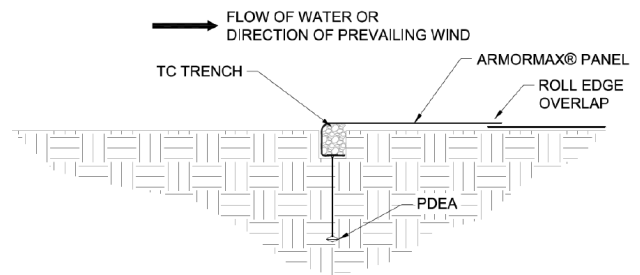

Figure 18: Terminal Channel (TC) Trench Complete
17. Fold the HPTRM panel over the top of the compacted TC trench ensuring a minimum 3 inch (75 mm) and a maximum of 6 in (150 mm) overlap and place each panel end into the respective COS trenches (Figure 18).